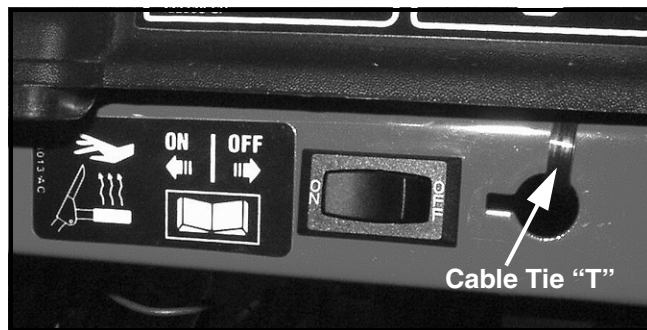

FIGURE 6
16. Connect the two heated hand grip wires to the Rocker Switch, Item 4. Install the switch into the rectangular hole as shown in Figure 6. It does not matter which wire goes to which terminal on the switch.
17. Clean the panel to the left of the rocker switch from grease, oil and dirt. Apply Label, Item 6, as shown. See Figure 6.